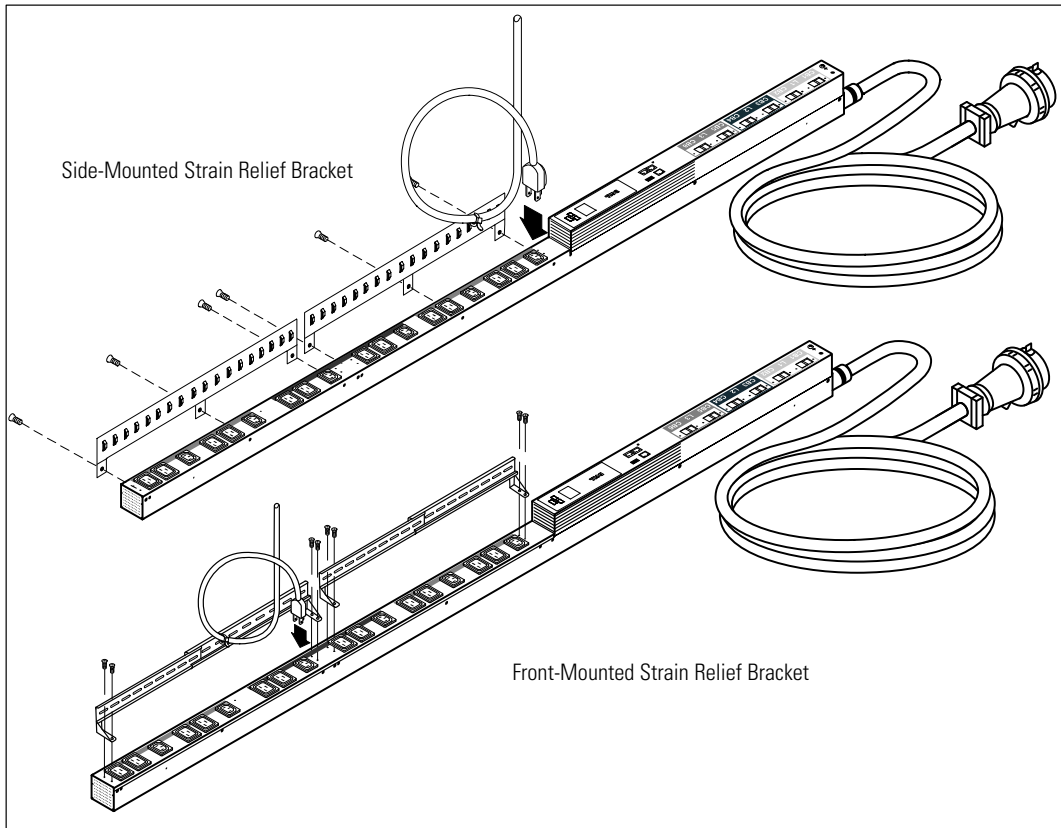

Figure 6. Strain Relief Bracket
- 2 Align the screw mounting holes on the rPDU with the screw mounting holes on the bracket (see Figure 6).